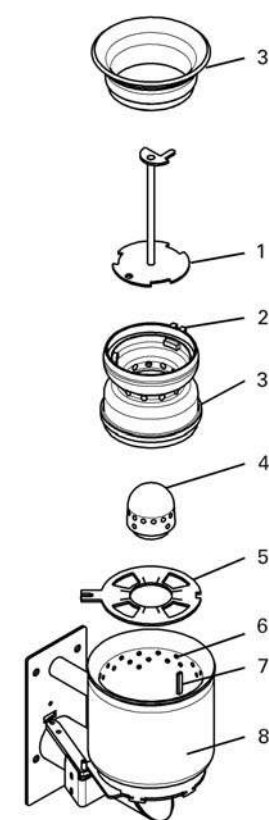

Fig. 120 BioWIN 100
- Lift out the cone using the removal tool – Figs. 120, 122, 124.
- Place the cone into the burner pot using the removal tool. The groove in the cone must project into the lock of the burner – Figs. 120, 122, 124.